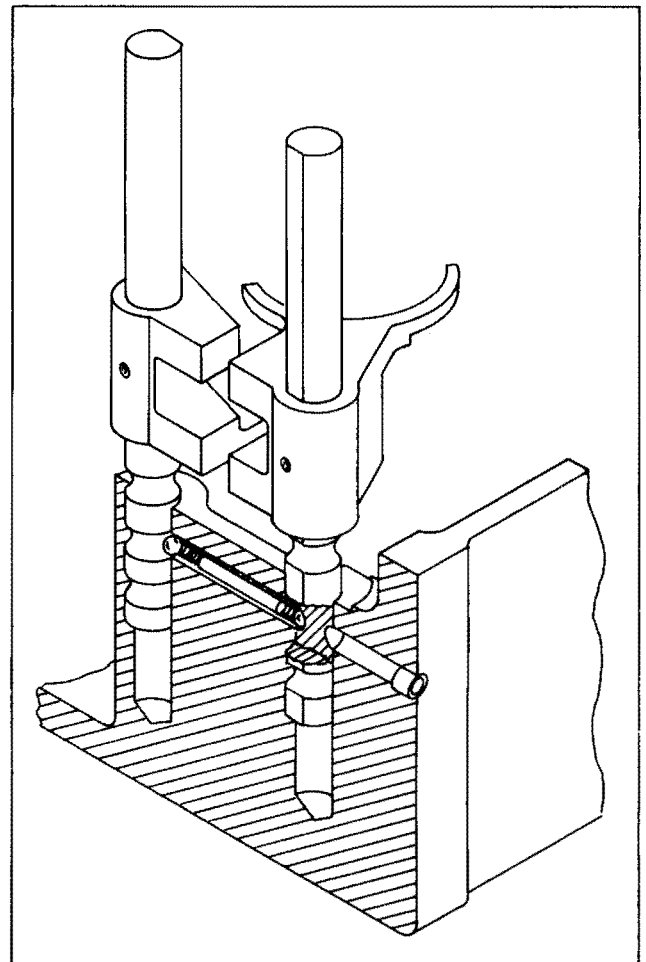

FIGURE 14
3. Install one stop ball, spring and stop pin. Refer to detent drawing and Figure 14.
4. Install the 2nd stop ball and using a punch push the ball in against the spring. Move the 2nd & high shift rail into the neutral position and continue to push on the punch until the ball is flush with the shift rail bore. At the same time insert the low and reverse shift rail and fork assembly, removing the punch, as the shift rail passes the ball. See Detent Drawing, Figure 14 and 15.